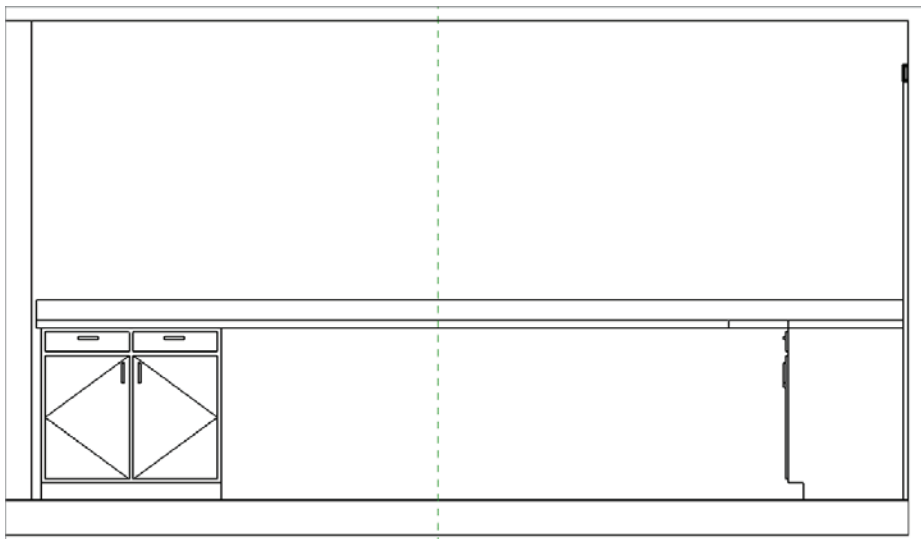

FIGURE 9.61 The 1" (25mm) overhang on the end
8. Move the base cabinet so there is a 1" (25mm) counter overhang, as shown in Figure 9.61.